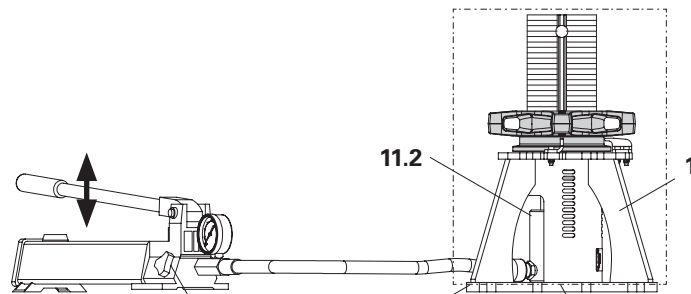

Fig. A5.06
2. Operate the pump lever until the cylinder is resting on the red pressure piece (**1.1**) of the spindle tube. (Fig. A5.06)